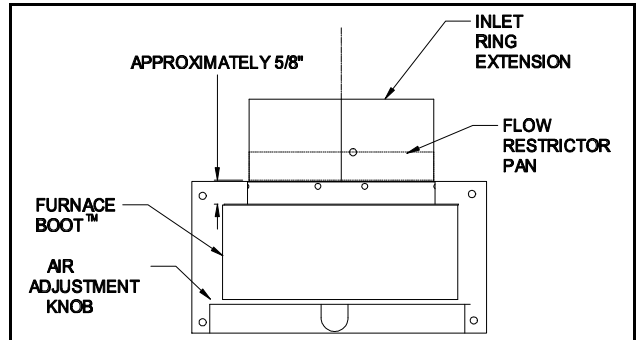

Figure 6
- b. Push the pan as far as the pan can go. The pan will be approximately 5/8" from the air adjustment blades. (See Figure 6)